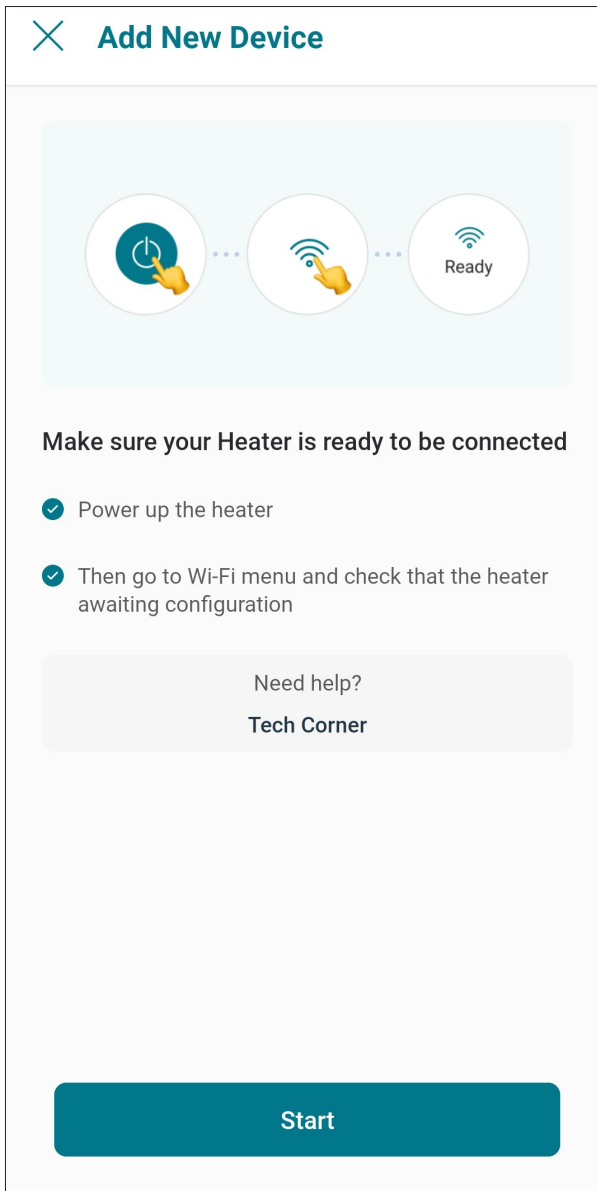

Figure 99. Check your Unit
4. "Check your Device" screen will appear. Ensure to have the heater powered and Wi-Fi signal available in the area, then press "Ready" button. See Figure 99.